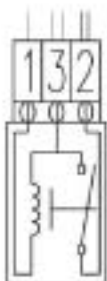

FIG 2 [INTERNAL CIRCUIT]
4. PTC begins heating as power is entered to No. 1 and 3 in [FIG 2].
6. Deformation of upper bimetal moves PTC and PTC moves blade. Here, 'omega spring' moved 'contact blade' so that terminal contact point and blade contact point are turned on (6sec after power impression) [FIG 2]. Current flows in output terminal 2. Also, 'slider stop' built in with blade enters the holde of slider and 'restrains slider while current is flowing'. So door cannot be opened.
- ① When power is turned off, power of terminal 1~3 in [FIG 2] is turned off.As current impressed to PTC is removed, 'bimetal' is cooled.
- ② With cooling of bimetal, PTC is returned to the original position. Also, restoration of omega spring blade contact point is turned off. Therefore, 'slider stop restoration (40sec ~ 5min after power off)' occurs.
- ③ As slider restraint is cleared, door can be opened.